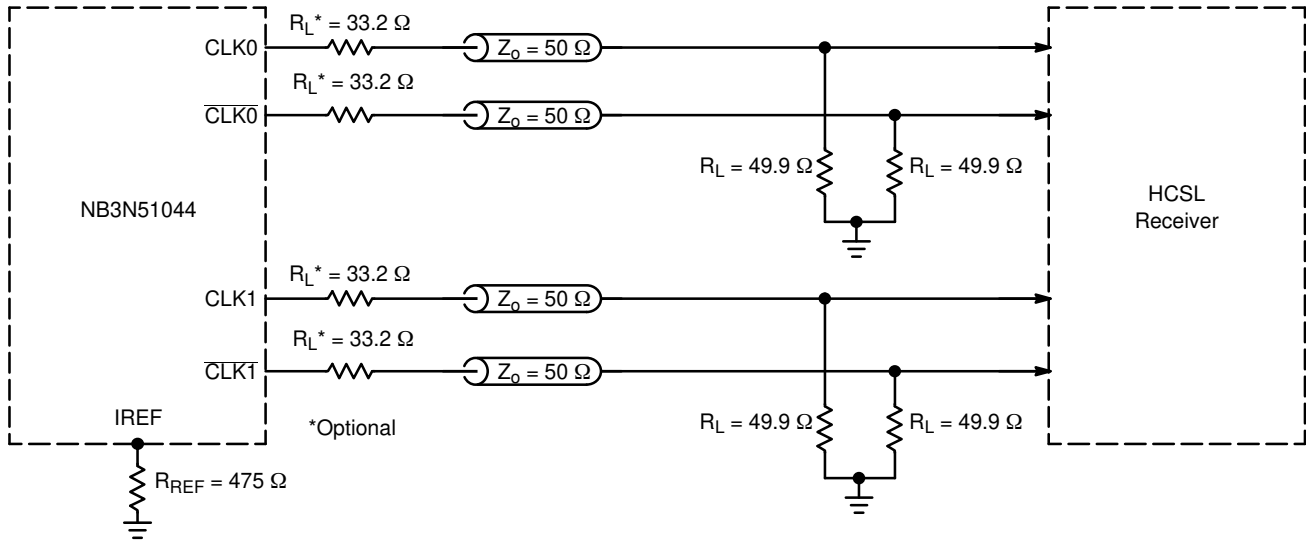
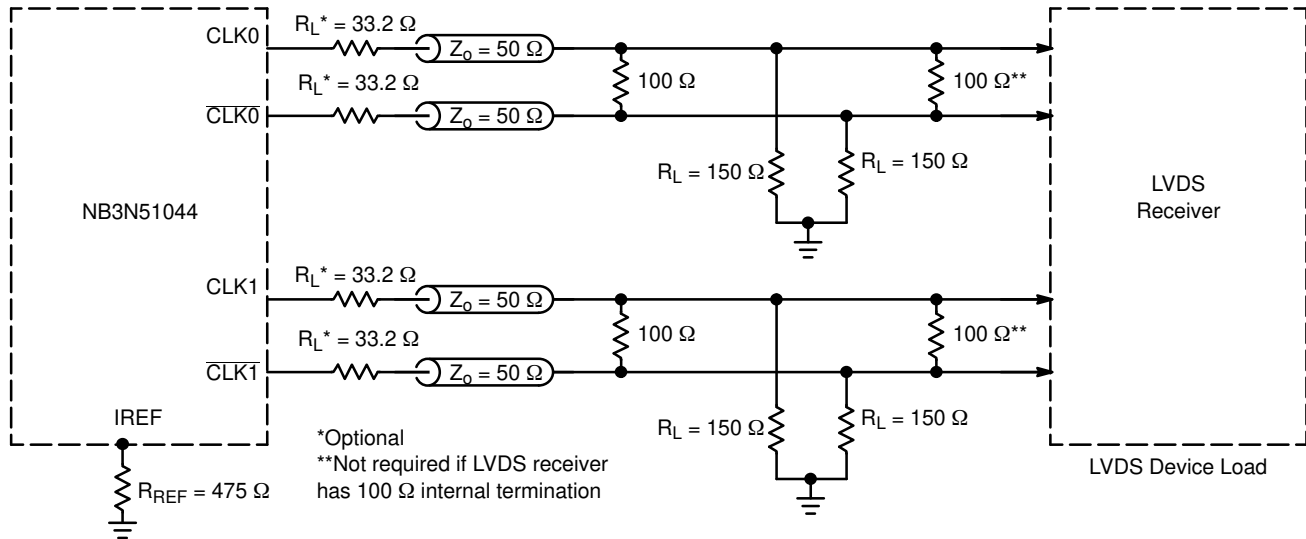

Figure 9. Typical Termination for HCSL Output Driver and Device Evaluation
Figure 10. Typical Termination for LVDS Device Load
4. Measurement taken with outputs terminated with  $R_S = 33.2 \Omega$ ,  $R_L = 49.9 \Omega$ , with test load capacitance of 2 pF and current biasing resistor set at  $R_{REF} = 475 \Omega$ . See Figure 9. Guaranteed by characterization.
12. Measurement taken from differential output on single-ended channel terminated with  $R_S = 33.2 \Omega$ ,  $R_L = 49.9 \Omega$ , with test load capacitance of 2 pF and current biasing resistor set at  $R_{REF} = 475 \Omega$ . See Figure 9. Guaranteed by characterization.
18. Measurement taken from differential output on single-ended channel terminated with  $R_S = 33.2\ \Omega$ ,  $R_L = 49.9\ \Omega$ , with test load capacitance of 2 pF and current biasing resistor set at  $R_{REF} = 475\ \Omega$ . See Figure 9. This parameter is guaranteed by characterization. Not tested in production.
The outputs can be terminated to drive HCSL receiver (see Figure 9) or LVDS receiver (see Figure 10). HCSL output interface requires  $49.9\ \Omega$  termination resistors to GND for generating the output levels. LVDS output